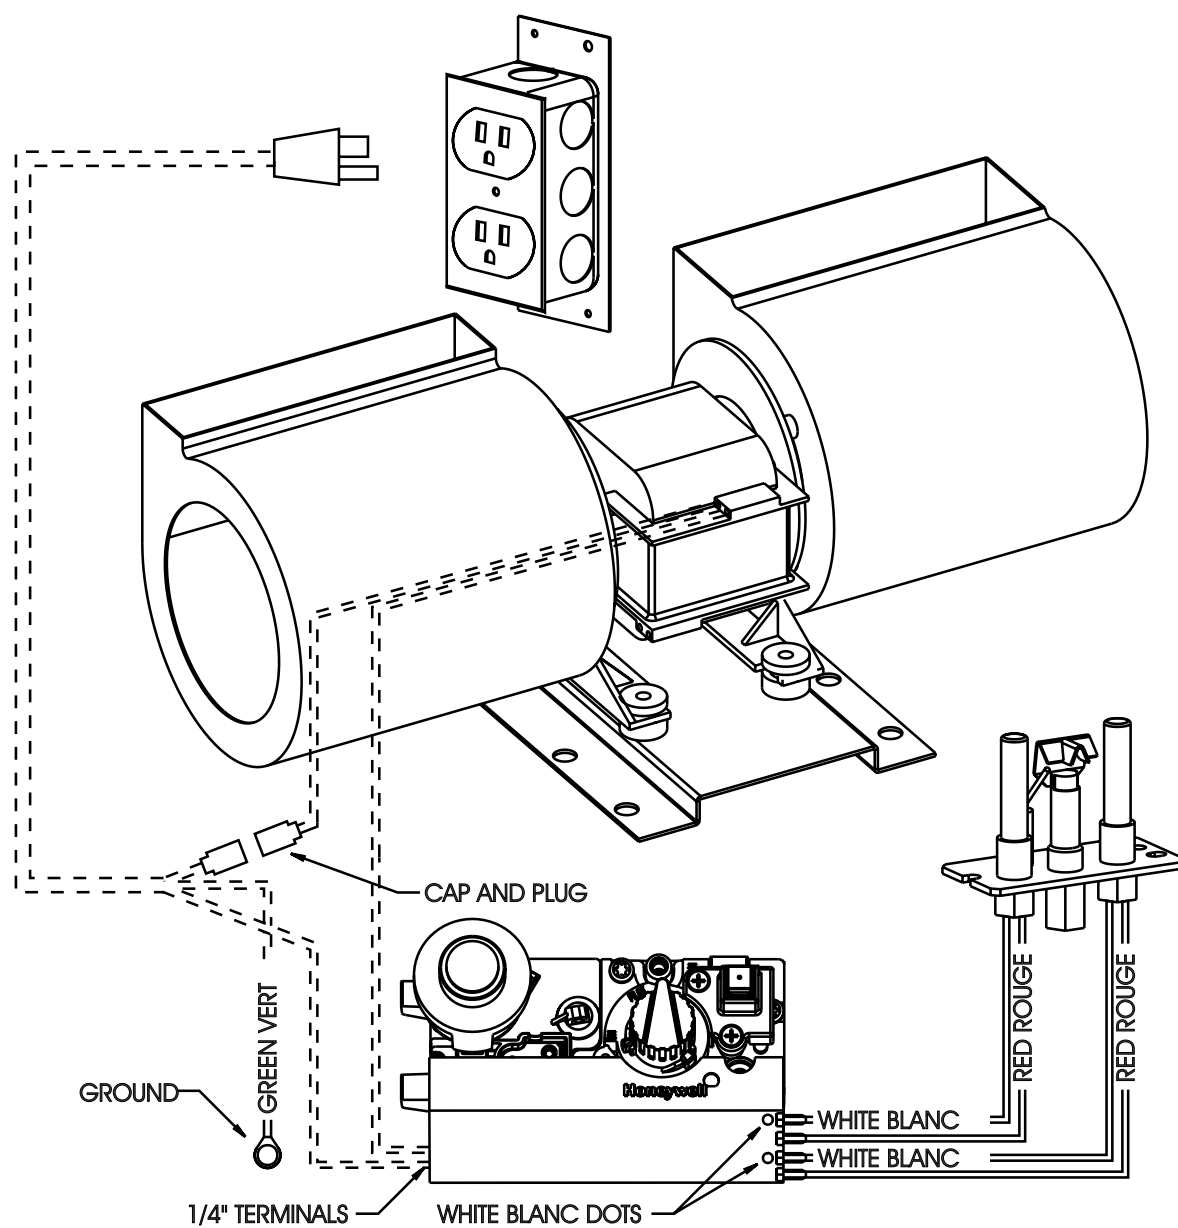

Figure 54
- Make sure antennae is not touching metal and is horizontal. Refer to Figure 54.